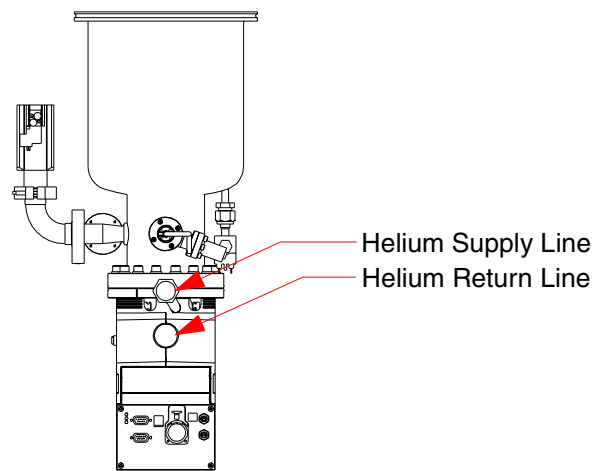

Figure 4-2: On-Board IS Cryopump Helium Supply and Return Lines
5. While each On-Board IS Cryopump is still operating, disconnect the helium SUPPLY line at all of the coldheads on the same manifold. The On-Board IS Cryopump helium supply line is shown in Figure 4-2.
6. Immediately after Step 5, and while each On-Board IS Cryopump is still operating, disconnect the helium RETURN line at all of the coldheads on the same manifold. The On-Board IS Cryopump helium return line is shown in Figure 4-2.
15. Reconnect the system helium RETURN line to the return connector on the coldhead as shown in Figure 4-2.
16. Reconnect the system helium SUPPLY line to the supply connector on the coldhead as shown in Figure 4-2.